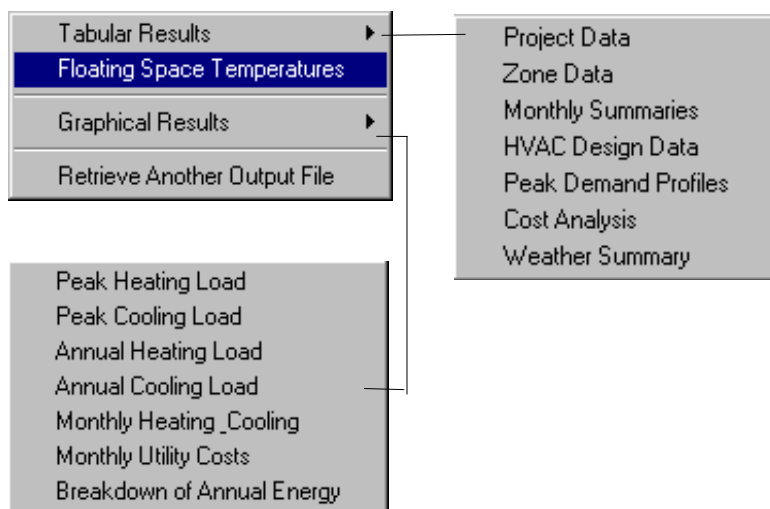
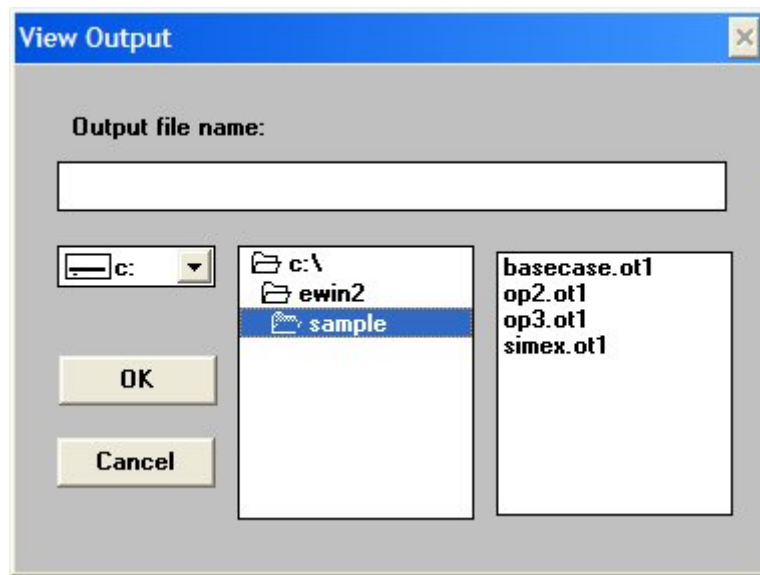

Fig 25. Output viewing options.
Fig. 26 Retrieving a previously run output file.
If you return to the main menu screen before viewing all the output from a run, you can still view or review it from the main menu. Figure 25 shows the pull-down menus that are available. Notice that you can even review output from a previously run project provided that you have saved it in a previous session. The dialog box for retrieving output from a previously run project is shown in Figure 26.
3. If you want to view another output file, select "Retrieve Another Output File" on the "View Output" pull-down menu and specify the output file name (continued in Figure 26).